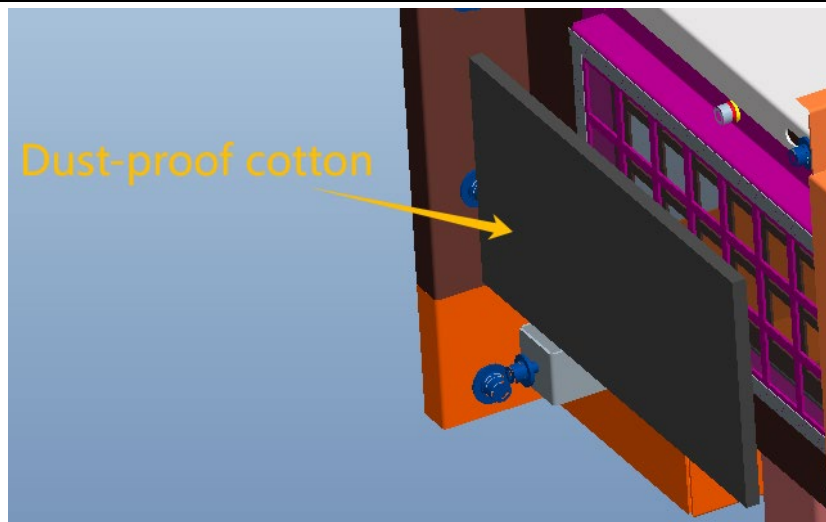

Figure 4-8 Schematic diagram for replacing dust proof cotton
9. Remove the dust-proof cotton for cleaning and replacement (the dust-proof cotton is fixed on the 4-tooth binding net bar), then fix the dust-proof cotton on the binding net bar after completion, and finally restore all the removed structural members, as shown in Figure 4-8 below;